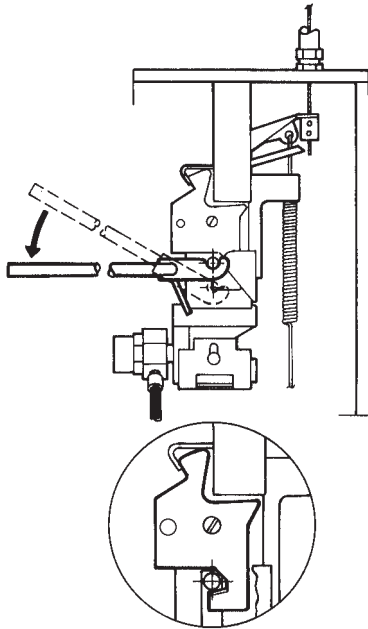

FIGURE 8-17
- 22. Cock the regulated release mechanism using cocking lever (Part No. 14995 or 435603/Part No. 441042 or 441041). See Figure 8-17.